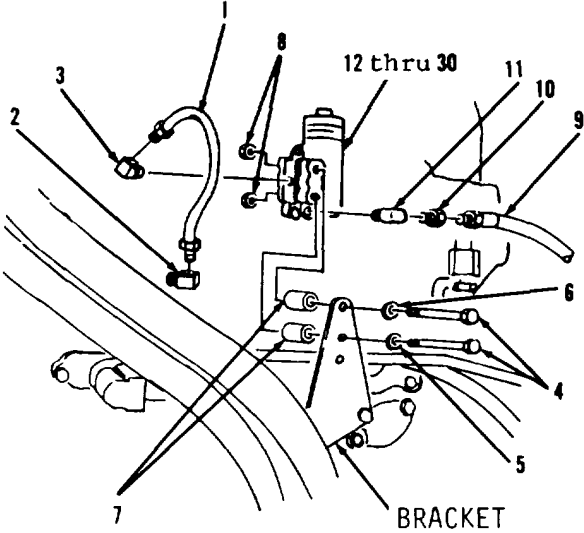

Figure 6-58.
- 1. Remove air line (1) from elbows (2 and 3) on air compressor governor (30, Figure 6-58).
- 2. Remove elbows (2 and 3) from air compressor governor (30).